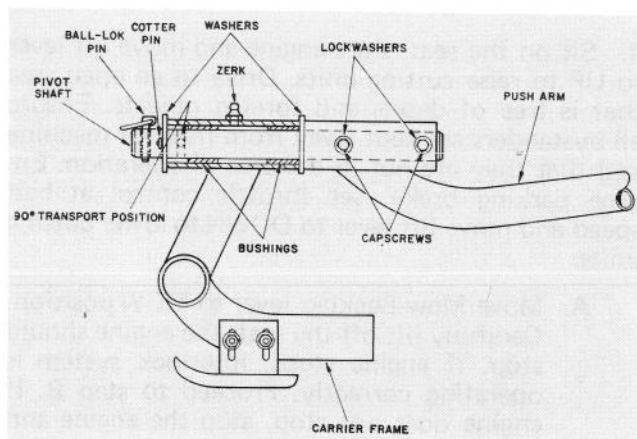
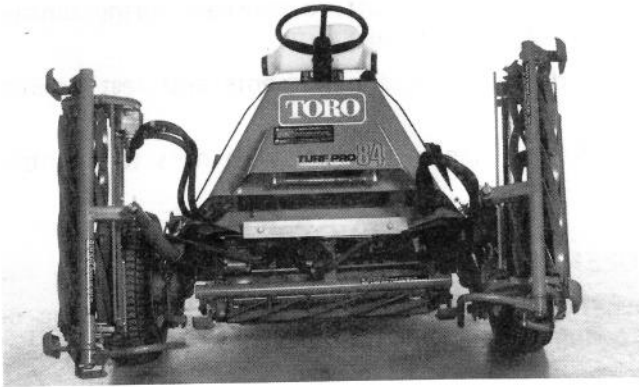

Figure 23
Figure 24
**Note:** The two front cutting units can be raised from a 45° angle to 90° to allow the Turf Pro 84 to pass through a confined area (Fig. 23). Stop engine and push the cutting units up to a 90° position, align the hole in the side of the carrier frame with the inner pivot shaft hole and insert the Ball-lok Pin from the front pivot shaft hole to secure the unit upright (Fig. 24).